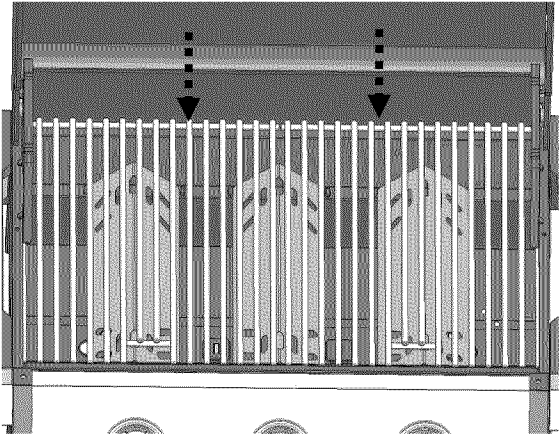

Figure 2
- Place the Cooking Grates into the firebox. See Figure 2.